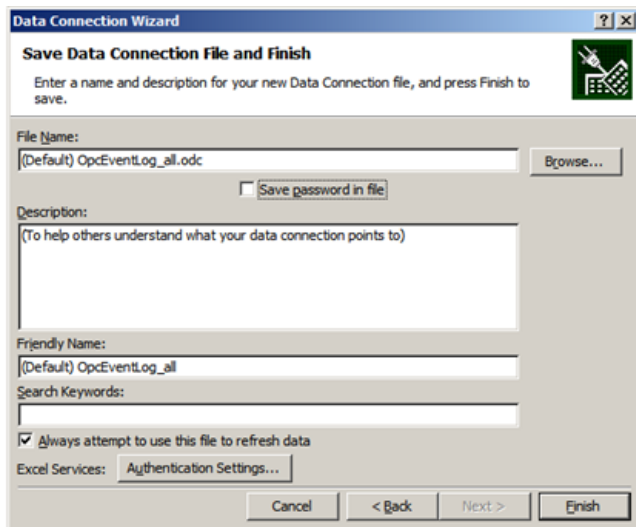

Figure 26. Data Connection Wizard - Save Data Connection File and Finish screen
3. Select *OpcEventLog\_All* or other tables if required and then click **Next** to view the **Save Data Connection File and Finish** screen as shown in Figure 26.